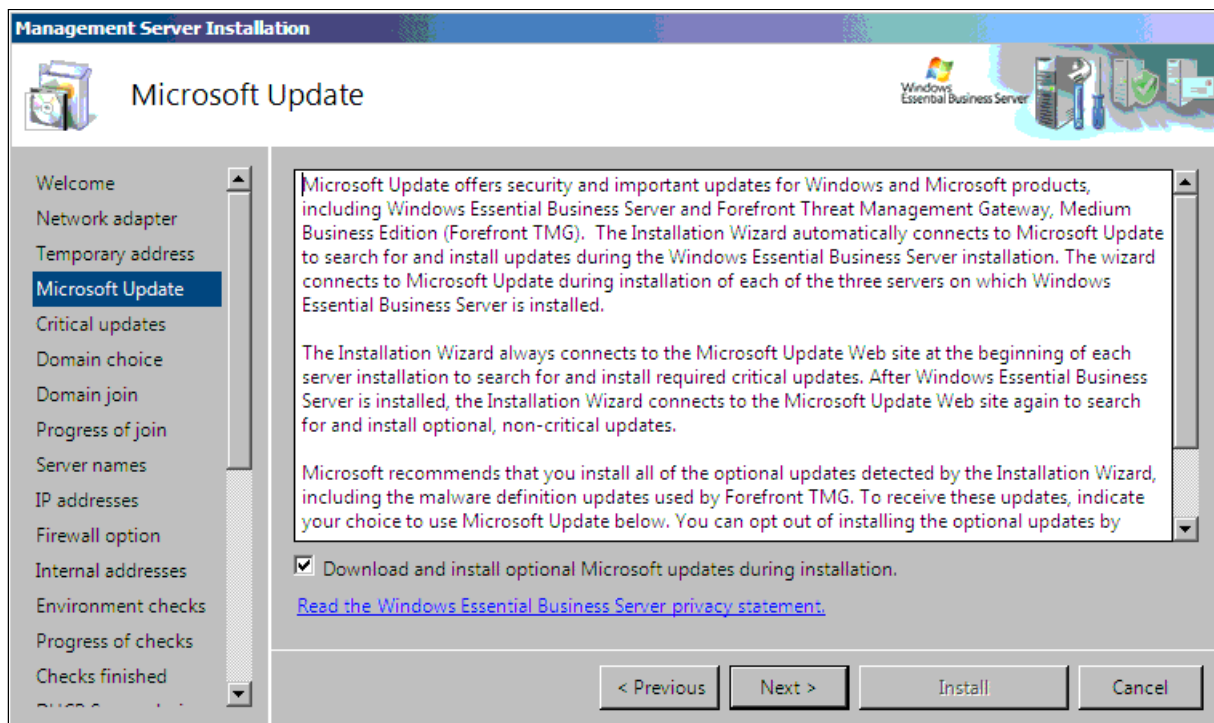

Figure 4-7 Microsoft Update
13. (Optional) On the “Microsoft Update” panel (Figure 4-7), select the **Download and install optional Microsoft updates during installation** check box to download optional updates from the Microsoft Updates Web site and apply them automatically during installation. Click **Next**.